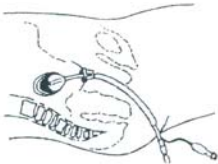

Figure 2
2. Be sure handle (F) is securely in place with flat face of cervical stop at 6cm.
3. Using a standard plastic syringe, test the inflatable cuff by inserting 6 to 7cc of air into valve assembly (A).
6. Ascertain if the cervix needs dilation. Dilate to #14 Hank size using approved surgical techniques or use a closed standard uterine dressing forceps to dilate the cervix. The inflatable cuff (C) of the Uterine Manipulator may tear if a wide enough passage is not afforded.
7. Lubricate the distal endport (B) and cuff (C) for easy insertion. Carefully guide the instrument along the natural axis of the cervix to avoid injury.
8. Insert the Uterine Manipulator fully into the uterus until the face of the cervical stop (E) abuts the external cervix. Slowly inflate the cuff with 3 to 10cc of air until you notice the cervical stop being pulled up tightly against the cervix. The inflating cuff "grasps" the lower uterus between itself and the fixed cervical stop. Hold thumb on plunger as you remove syringe from inflation valve to prevent reflux of air back into syringe.
9. To insure that the cuff (C) has not ruptured during procedure, check the tautness of the pilot balloon (A). A soft balloon indicates a ruptured or leaking cuff.
12. Posterior positioned uteri (see Figure 2) can be rotated to the anterior position by placing the Uterine Manipulator into the uterus posteriorly and rotating it anteriorly after cuff inflation.
13. Before manipulating or injecting, check that the cuff (C) is inflated by observing pilot balloon inflation. The cervical seal will be lost should cuff break. A deflated cuff increases the danger of uterine wall perforation.
14. To remove the Uterine Manipulator insert syringe deeply in the air valve (A) and deflate cuff. Carefully remove the instrument. Check before discarding instrument to be sure it is intact and no parts remain in the vaginal canal.